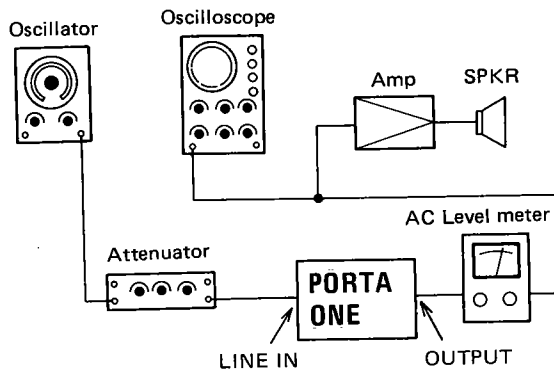

Fig. 10-3 Bias voltage measurement
1. Connect the test equipments as shown in Fig. 10-3. Connect an AF oscillator to the MIC/LINE "1" jack and a level meter to the TAPE OUT "1" jack. (Also connect a level meter to the LINE OUT "L" (R) jack as required.) Adjust each fader control until the LINE OUT level of -10 dBV is obtained as mentioned under the item 9-1. (Refer to 9-1).
3. Place the RECORD FUNCTION switch in the TRK "1" position to set the TRK "1" to the record mode. Under this condition, the VU meter will show 0VU. If the meter deflection error is observed, perform readjustment as shown in the item 9-2.
1. Connect test equipments as shown in Fig. 10-3, and adjust each fader control on the front panel so that -10 dBV is obtained at the LINE OUT jack as mentioned in the item 9-1.
1. Connect the test equipments as shown in Fig. 10-3 and adjust each fader control knob so that -10 dBV is obtained at the LINE OUT jack as mentioned under the item 9-1.